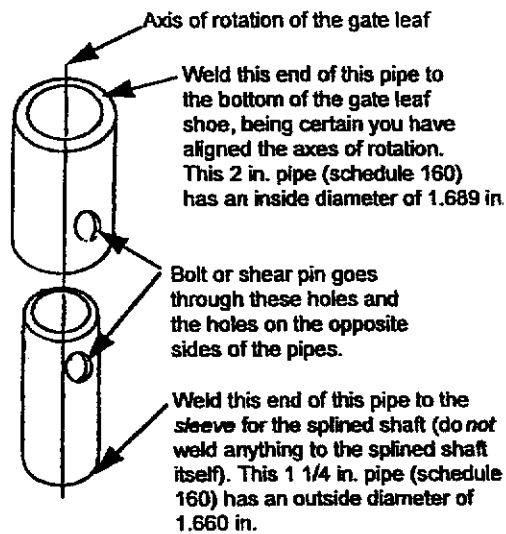

Figure 9. A sample shear-pin assembly
**Note:** If the vertical distance between the finished grade and the bottom of the gate leaf exceeds 1 1/4 in. (3.3 cm) as shown in Figure 5, you can install a shear-pin assembly as shown in Figure 9 and as discussed in "Installing the Gate Leaf Shoe."
- Construct a shear-pin assembly to accommodate the extra vertical distance. The assembly is welded to the bottom of the gate leaf shoe on one end and to the sleeve for the splined shaft of the pinion on the other end (see Figures 9 and 10). Such an assembly requires a bottom hinge and also protects the pinion and splined shaft in the event something hits the gate with great force.
Installing the gate leaf shoe involves making the gate leaf shoe, positioning it, and welding it to the splined shaft sleeve. If you are retrofitting the 750 Operator to an existing gate, these tasks require you to remove the gate leaf from its hinges. If you are using a shear-pin assembly, refer to Figures 9 and 10 to determine what you should weld together.